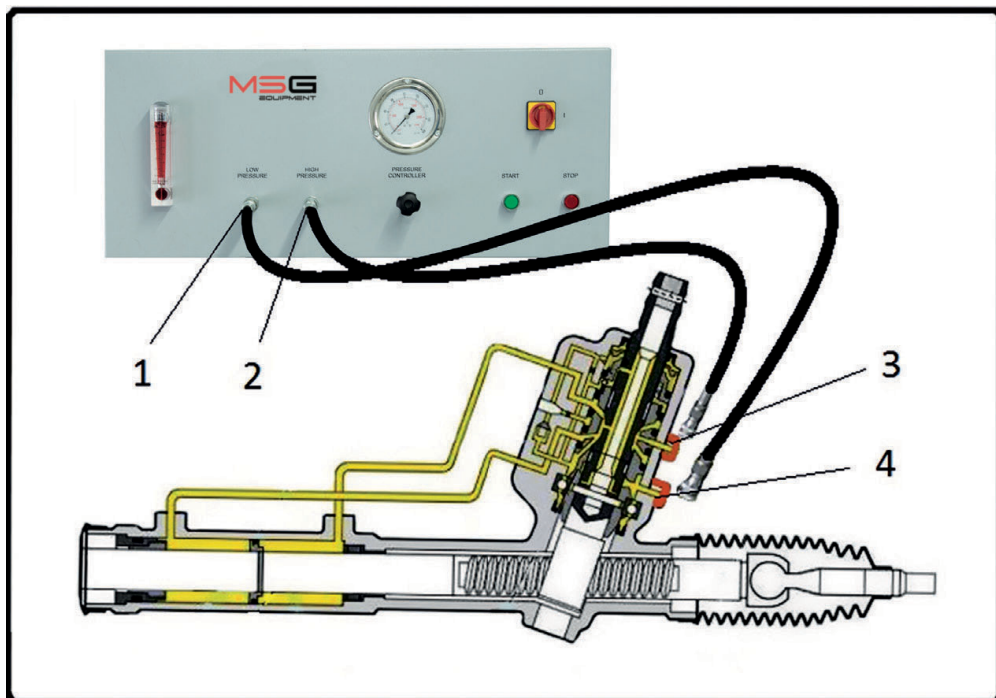

Figure 2. Connecting the steering rack to the bench:
5. Connect the high-pressure hoses to the rack as shown in Figure 2.